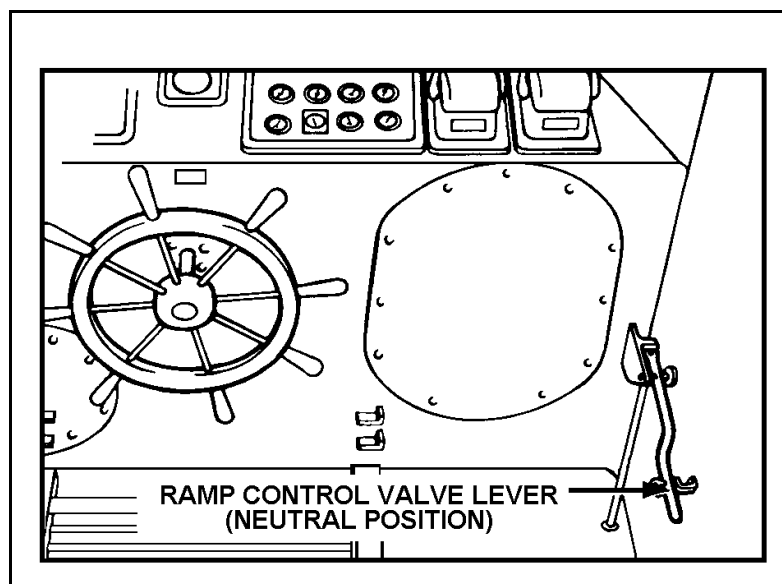

Figure 17-12. Ramp Control Valve Lever, Hull Numbers 8520 Through 8539
- **Step 2.** Put the ramp hoist control valve lever in the neutral position (see Figure 17-12).